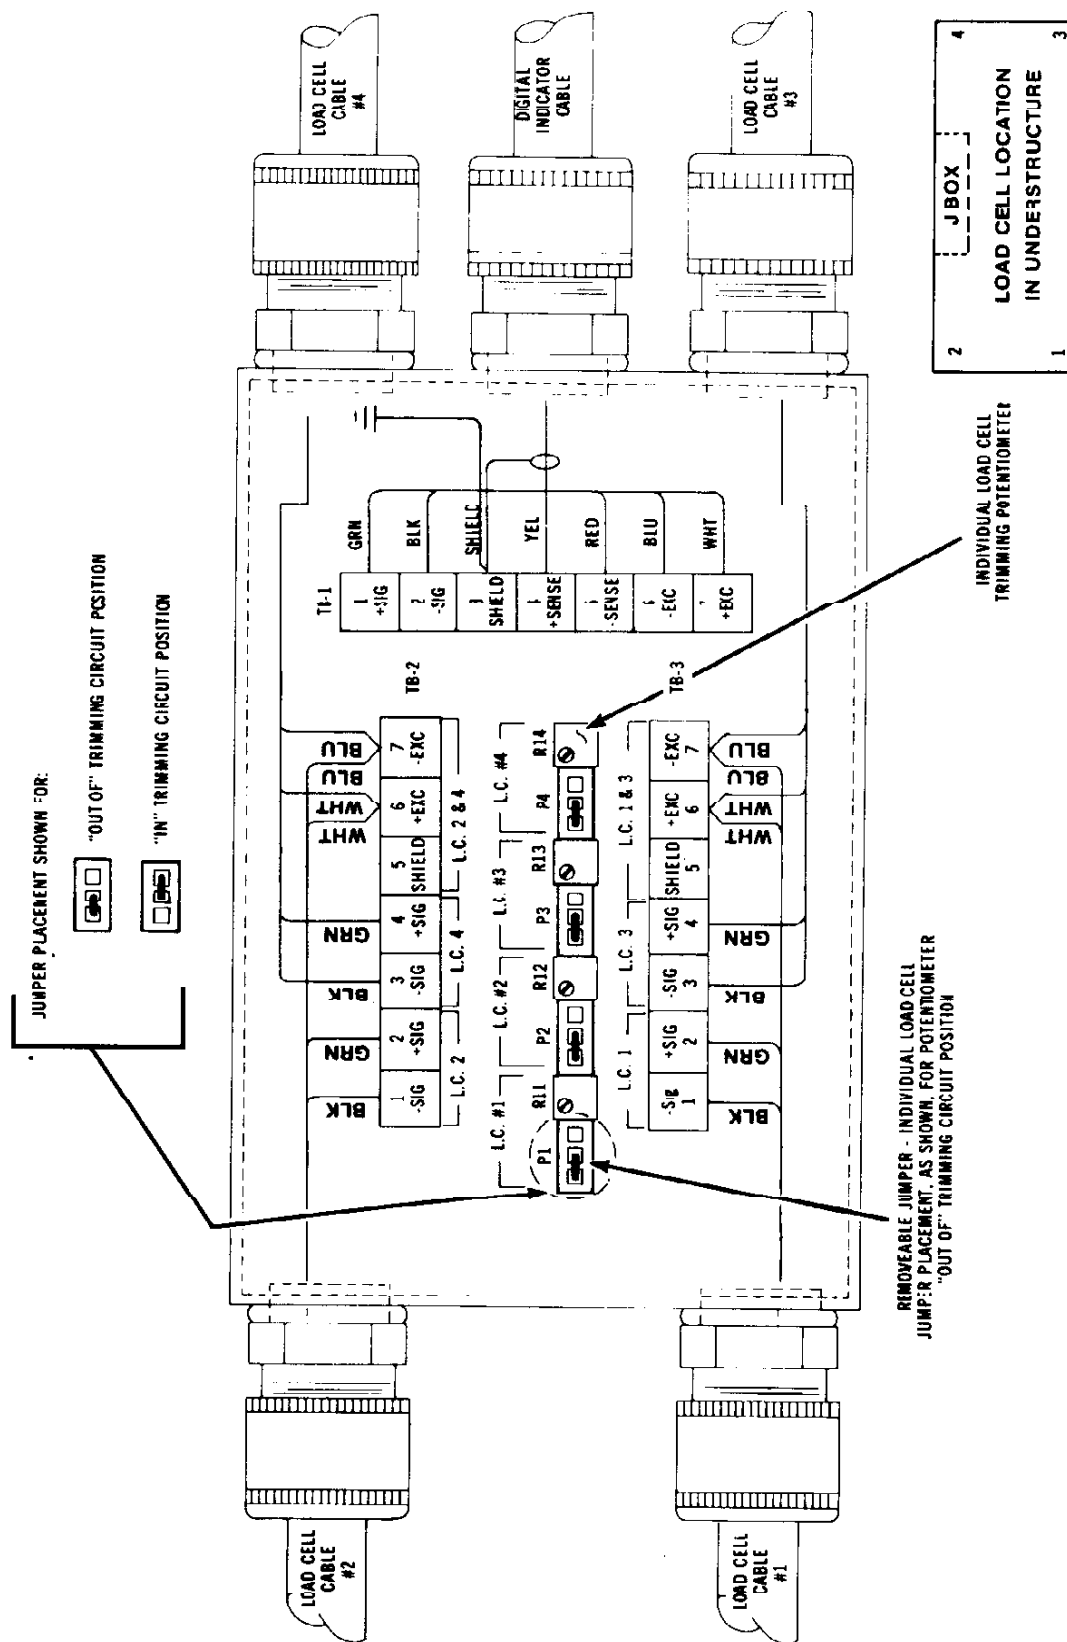

Figure 7
Load cell trimming potentiometers are mounted on the junction box printed circuit board. See Figure 7. The load cells are wired to the printed circuit board as shown in Figure 5.
- 8.1 Make the required cable connections to the junction box terminals. See Figure 7. Make sure all connections are tight against the bare wire and not against the insulation.